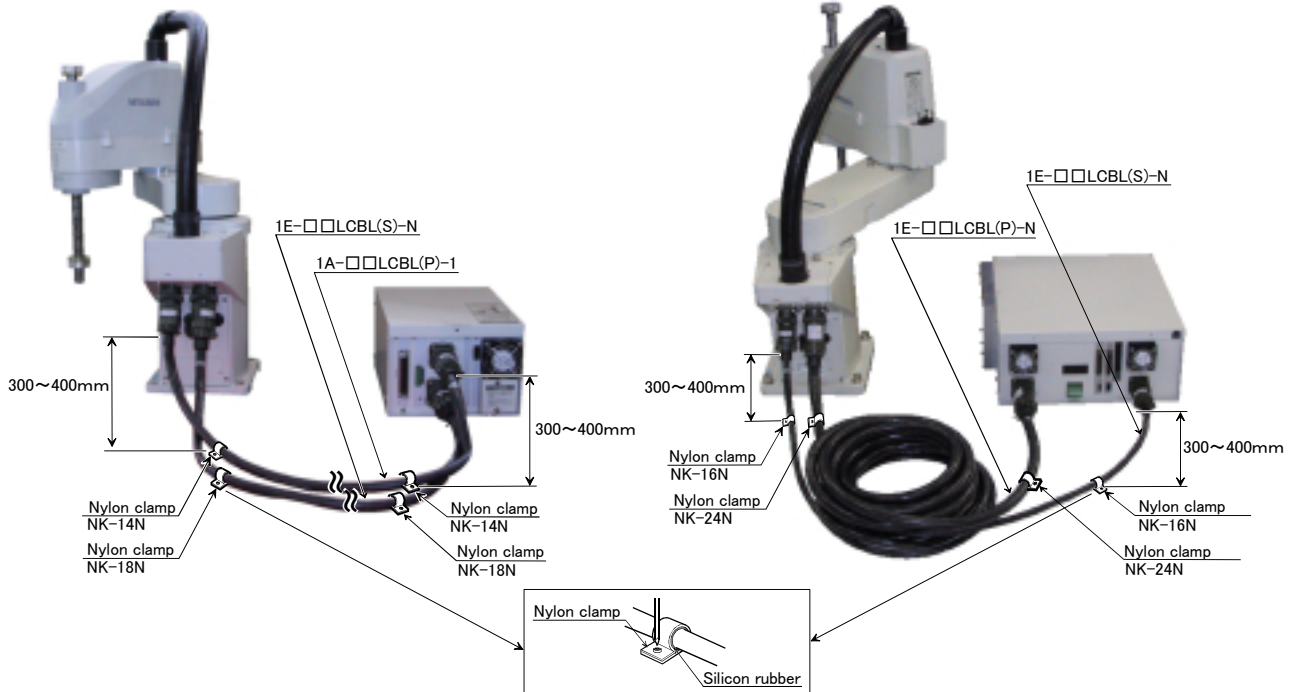

Fig.2-30 : Fixing the flexible cable
- (1) Connect the connector to the robot arm and controller.
- (2) Wind the silicon rubber around the cable at a position 300mm to 400mm from the robot arm and controller as shown in Fig. 2-30, and fix with the nylon clamp to protect the cable from external stress.